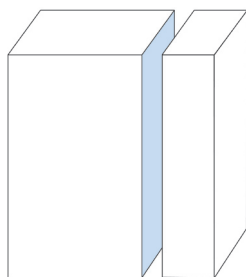

Fig.5
- The device is now operational and it can be activated via an On/Off switch (No. 11) (press the rocker switch to the left = foam board cutting operation; press the rocker switch to the right = corner cutting operation) (Fig.5).